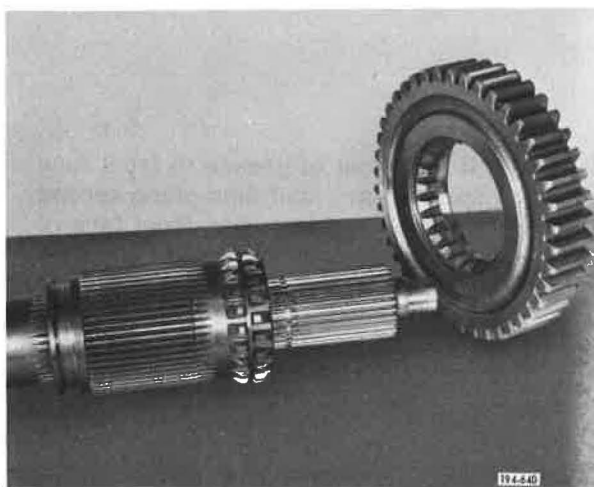

Figure 5-953. Installing Gear
14. Install third speed gear onto front mainshaft. See **Figure 5-953**.